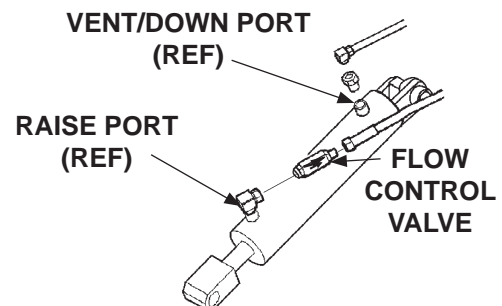

FIG. 71-3
7. Check if flow control valve (**FIG. 71-3**) is pointing to the direction of restricted fluid flow (back toward pump). If required, remove flow control valve and install it correctly (**FIG. 71-3**).